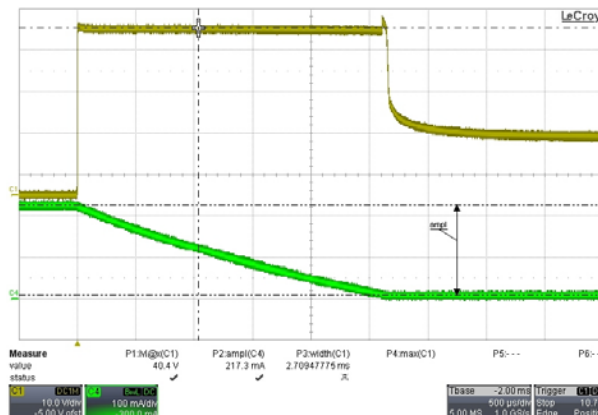

Figure 4. Repetitive Clamping Energy Test
2. Testing particulars, 2M pulses, $V_{bat} = 15$ V, 63 Ω, 390 mH, $T_A = 25^\circ\text{C}$. (See Figure 4)